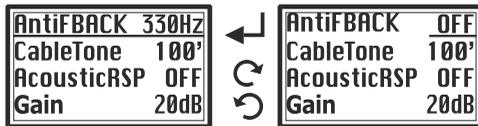

Fig. 12
(1)  Press the rotary knob
(2)  Turn the rotary knob right or left
(D) AntiFBACK ( Anti Feedback ) function, Fig. 12: